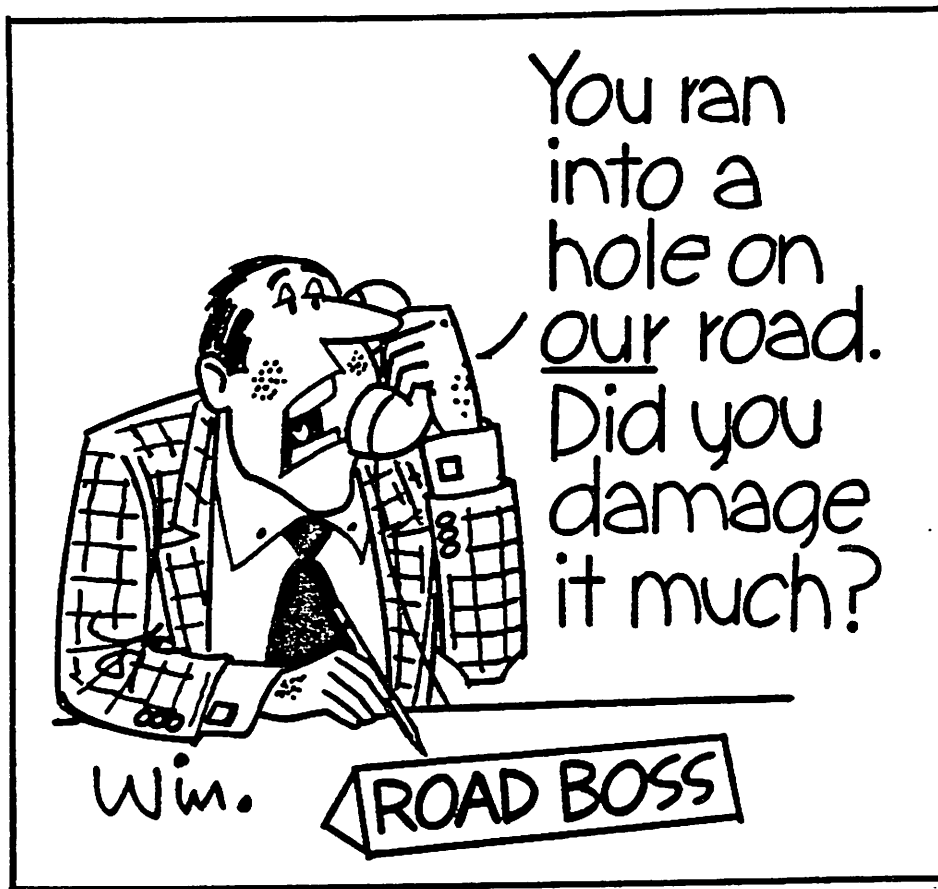

FIGURE 19.
- FIGURE 19 DELP, LARUE, "ECONOMICS OF PREVENTIVE MAINTENANCE"